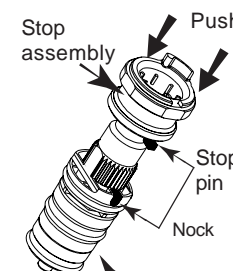

Fig. 5
- Install the "stop assembly" home on the cartridge, adjusting the stop pin in the notch (fig. 5).